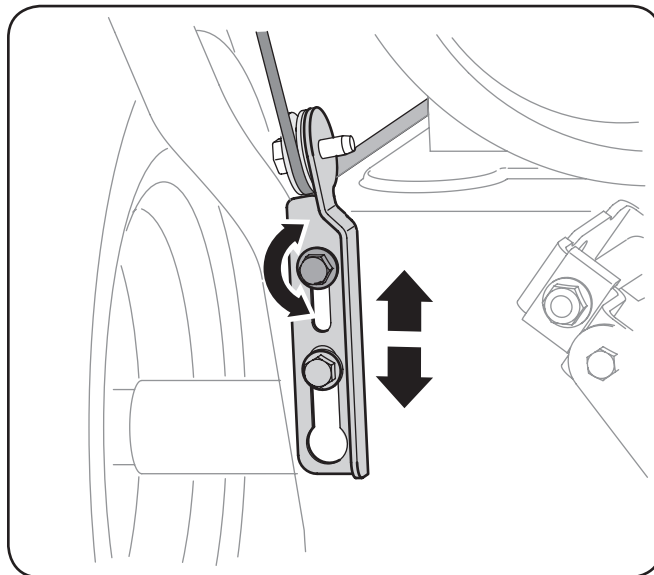

Figure 3-13
4. Allow the auger to remain engaged for approximately ten (10) seconds before releasing the auger control. Repeat this several times.
7. To readjust the control cable, loosen the upper hex screw on the auger cable bracket. See Figure 3-13.